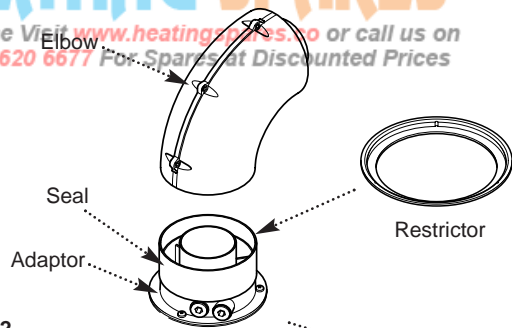

Fig. 22
IMPORTANT: If the equivalent flue length is greater than 1.5m the restrictor **MUST** be removed from the adaptor (Fig. 22).
9. Take one of the rubber seals and position it on the boiler flue adaptor. Engage the flue elbow on the adaptor and pull the sleeve up so that it equally covers the joint (Fig. 22).